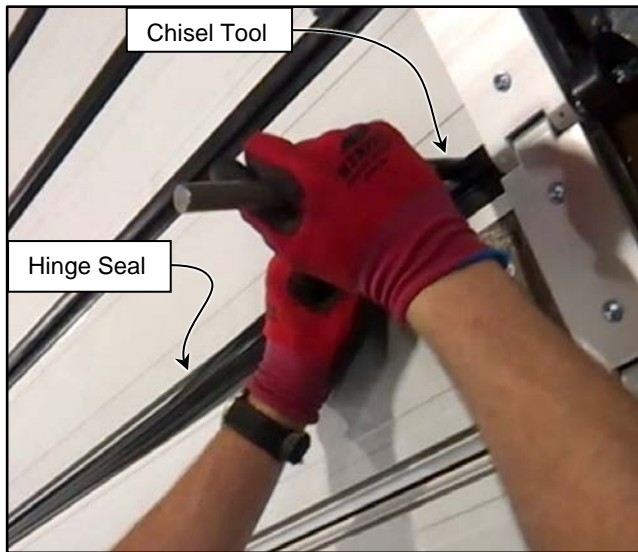

Figure 35
3. Insert each end of the seal into the channel by butting the end up to the hinges as shown. Use the dull chisel tool to firmly press the first approximately 3" of the edges of the seal into the channel for proper seating. (See Figure 35)